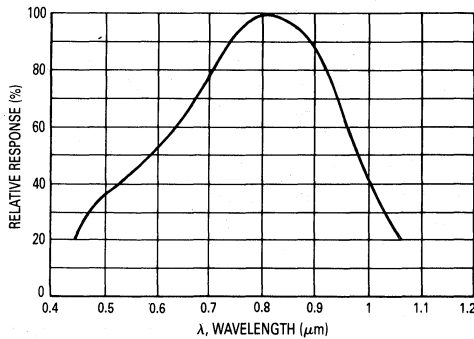

Figure 6. Constant Energy Spectral Response
2. For unsaturated response time measurements, radiation is provided by pulsed GaAs (gallium-arsenide) light-emitting diode (λ ≈ 940 nm) with a pulse width equal to or greater than 500 microseconds (see Figure 6) I_L = 1 mA peak.